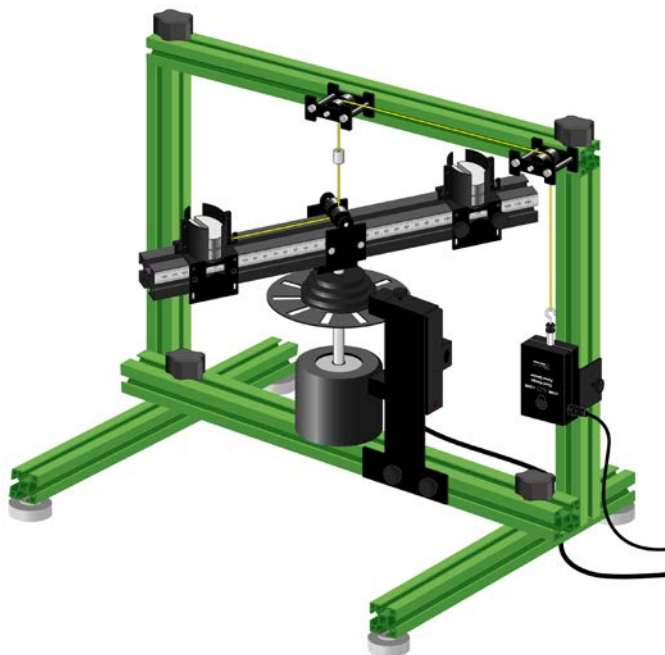

Figure 1
1. Attach a Dual-Range Force Sensor and a Vernier Photogate to the Vernier Centripetal Force Apparatus (CFA), as shown in Figure 1.